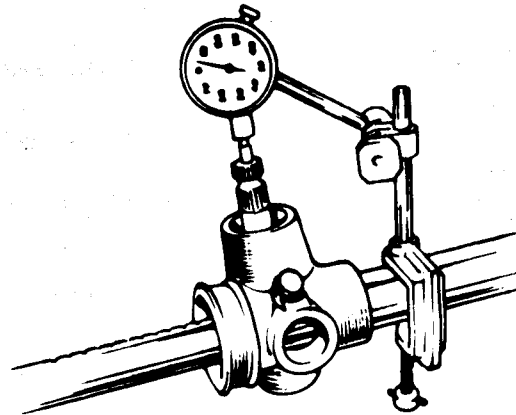
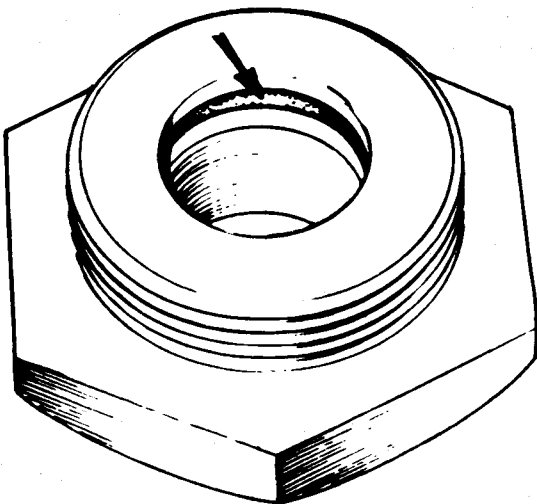

Fig. 10 - Measuring Pinion End Float.
Fig. 11 - 'O' Ring in the Retaining Ring.
- b/ Mount a dial gauge on the tube as shown in Fig.10. Push the pinion down to its limit and zero the dial gauge. Lift the shaft until the retaining ring contacts the circlip and note the dial reading. This represents the total pinion shaft end float. Remove the circlip and withdraw the pinion shaft assembly. Remove the retaining ring and fit a new rubber 'O' ring (See Fig. 11).